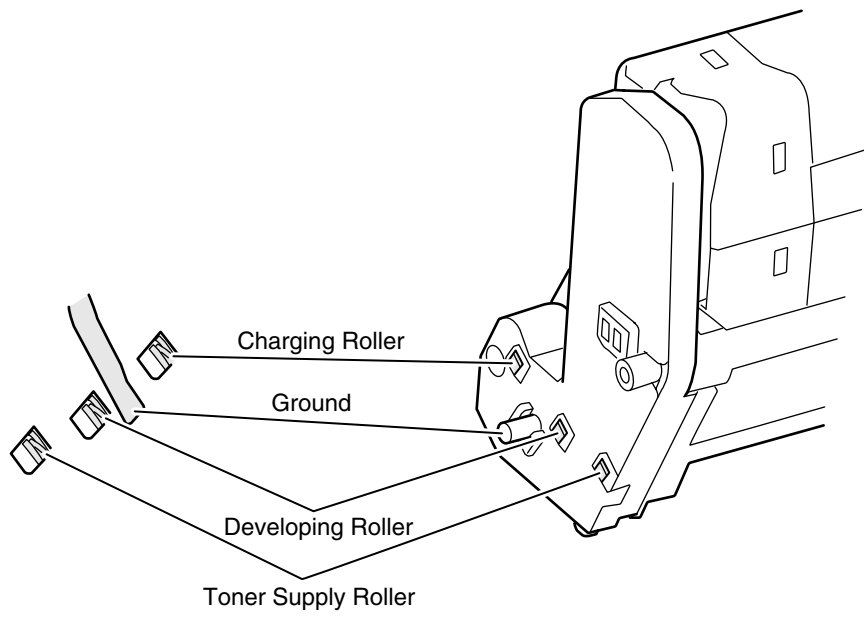

Figure 5.3
- ▼ NO Are the pins of the image drum units connected to the contact assy properly (see figure 5-3)?